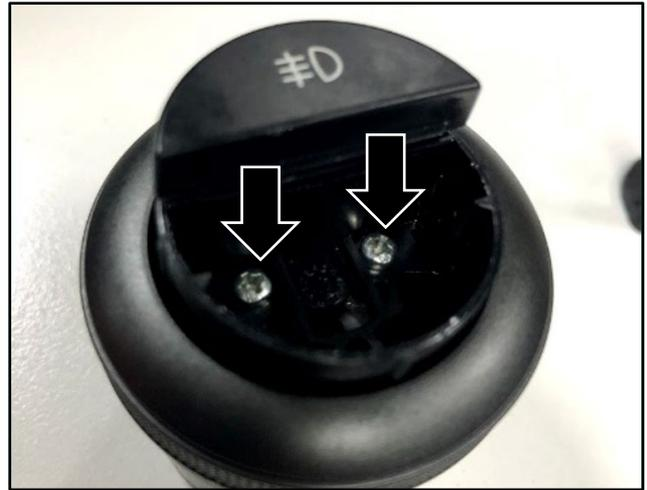

Figure 7
5. Remove and discard the two screws shown (refer to Figure 7).